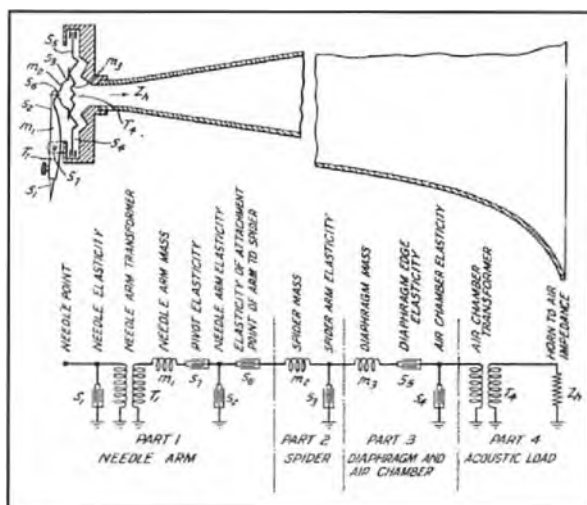

Fig 5. Harrison's phonograph mechanism and its electrical equivalent circuit.
Mathematically, mechanical and electrical filter design is interchangeable; a mechanical design can be represented by an electrical circuit. In 1923, Harrison, then employed by the Western Electric Company, filed a patent for a mechanical phonograph where each component from pick-up needle to horn was represented as an electrical circuit, as shown in Fig 5 on the next page.
2. Some readers may query the reason for the electrical circuit shown below the horn in Fig 5. Mathematically, electrical, mechanical and acoustic resonance have much in common. The mathematical analysis of mechanical filters is analogous to that of electrical filters. A passive linear electrical network is made up of inductors, capacitors and resistors; respectively these have the properties of inductance, elastance (inverse capacitance) and resistance. Their mechanical counterparts are, respectively, mass, stiffness and damping. Similarly, the mechanical counterpart of voltage is force, while current equates to velocity, and these represent the signal waveforms.